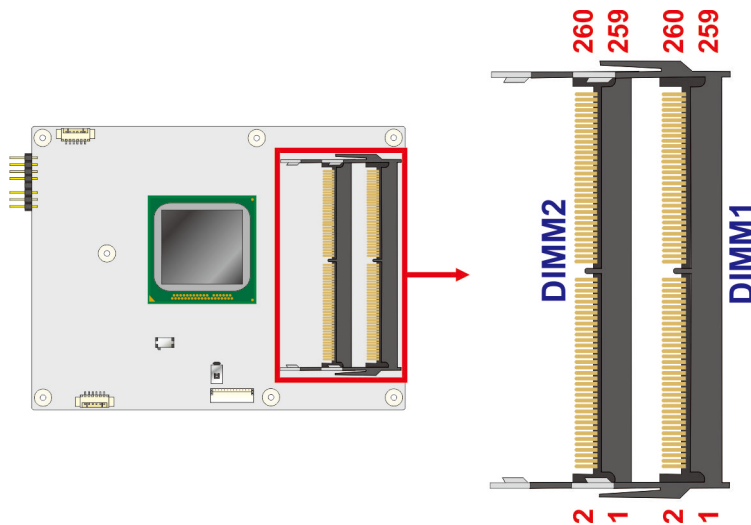

Figure 3-5: SO-DIMM Connector Locations
- CN Location:** See **Figure 3-5**